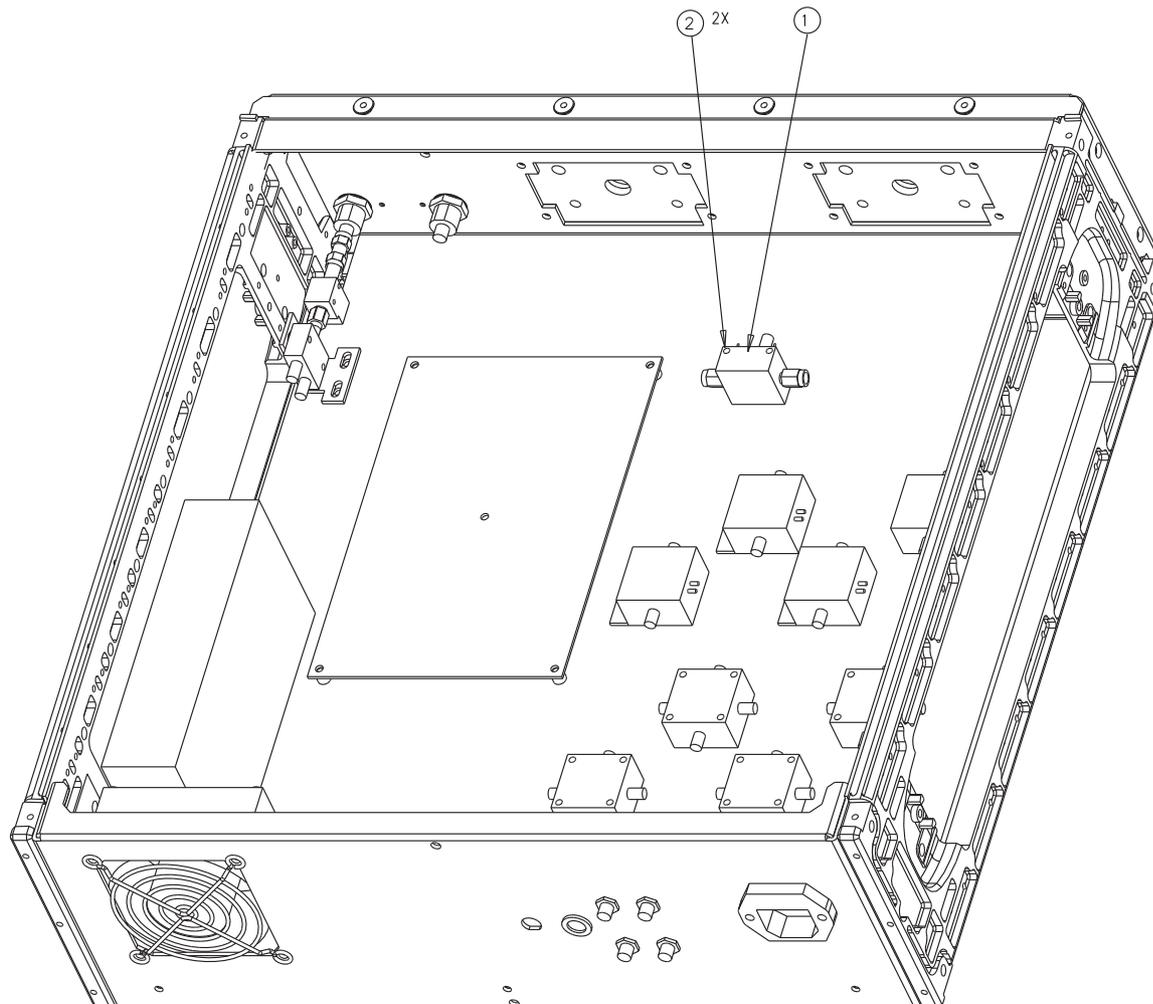

Figure 6-6. Transfer Switch Removal
4. Remove the two mounting screws (2) from the transfer switch (1). Refer to Figure 6-6, “Transfer Switch Removal” on page 6-10.